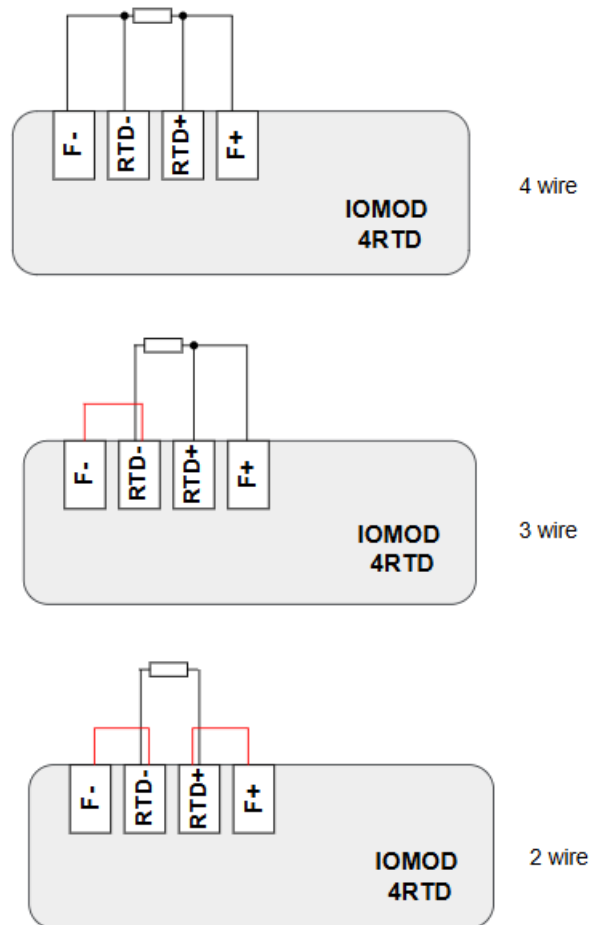

Fig. 4.1.1 RTD sensor connections, the red wire is shorted on the terminal plug
**2-wire RTD sensor:** connect wire to RTD+ and RTD- contacts. The connection between RTD+ and F+, RTD- and F- must be shorted (Fig. 4.1.1).
**3-wire RTD sensor:** connect one wire to RTD+, a second wire (compensating lead wire) to F+ and wire to RTD-. The jumper between RTD- and F- must be shorted (Fig. 4.1.1).
**4-wire RTD sensor:** connect wires to RTD+ and F+ contacts, and wires to RTD- and F- contacts. No contacts shall be shorted. (Fig. 4.1.1).